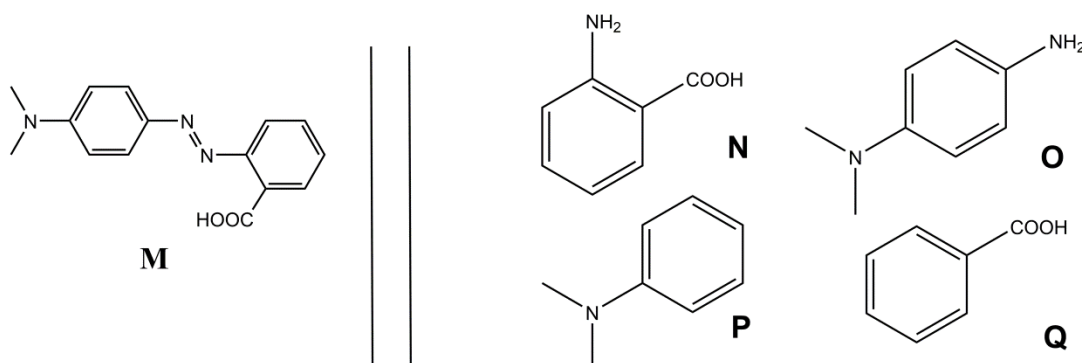

Fig. 1 – Possible reactants for the synthesis of **M**.
2. **M** can be synthesized in two steps from simple reactants (Fig. 1). **Choose** among the suggested reactants (**N** to **Q**) the ones that can provide **M** with very high regioselectivity. Sodium nitrite (NaNO_2) in cold aqueous hydrochloric acid is used as reagent for the first step of the synthesis.